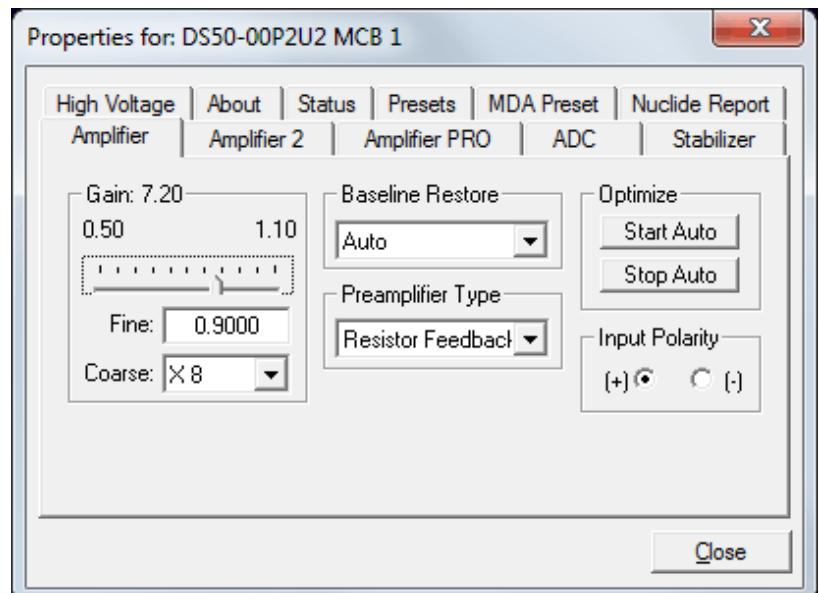

Figure 39. The DSPEC-50 Amplifier Tab.
The Amplifier tab (Fig. 39) lets you set the amplifier shaping time to either **Long** or **Short**. The **Long** shaping time is the recommended choice for low to moderate count rates. The value of the shaping time (in μs) is given in the hardware manual.
- 2) Select **Acquire/MCB Properties...** and click the Amplifier tab (Fig. 39).